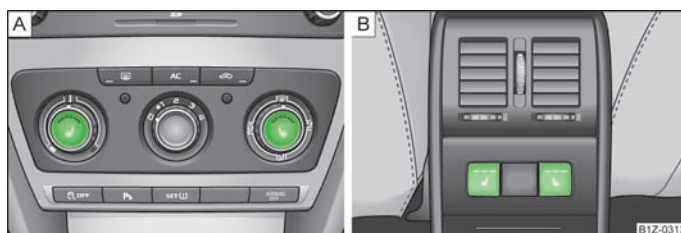

Fig. 43 Regulator for heating the front seats/rear seats
- The seat heaters on the driver's and front passenger's seat can be switched on and regulated by pressing the button in the area of the symbol  or  » Fig. 43 -  A.
- The heaters on the left or right rear seats can be switched on and regulated by pressing the regulator  or  » Fig. 43 -  B.